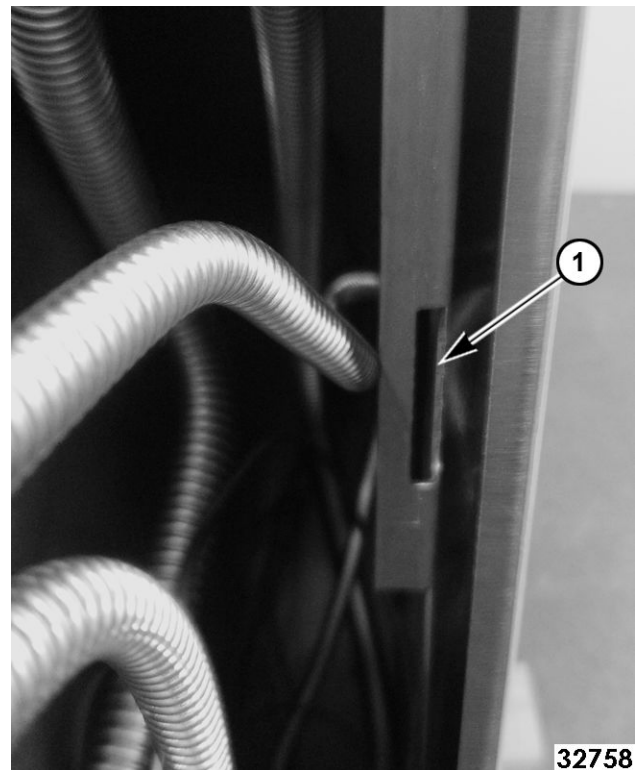

Fig. 5
7. Lift up gas mount bracket to release hook (1, Fig. 4) off inner tab (1, Fig. 5). Pull out pilot safety valve and temperature control bracket assembly from oven.